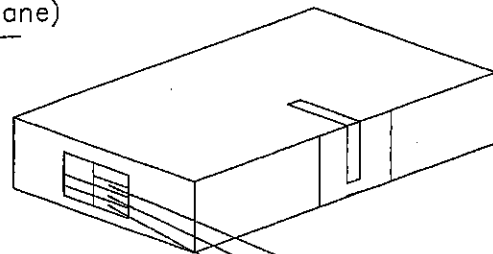

Fig.4
- Seal the packing box, and print the model No., quantity and lot No. (500pcs. / a packing box) (Fig. 4)